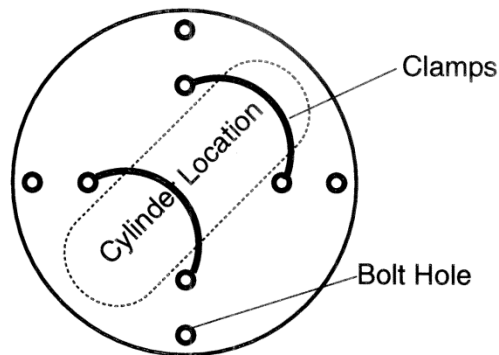

Figure A-4
7. Attach the cylinder(s) to the extractor using the clamps as shown in Fig. A-4.